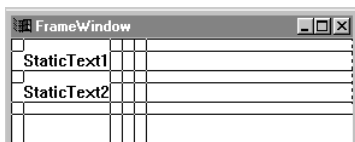

Figure 95. Multicell Canvas with IStaticText* Parts, Showing Spacer Rows
4. Drop another IStaticText* part at cell (4,2), leaving row 3 as a spacer. The multicell canvas now looks like Figure 95.